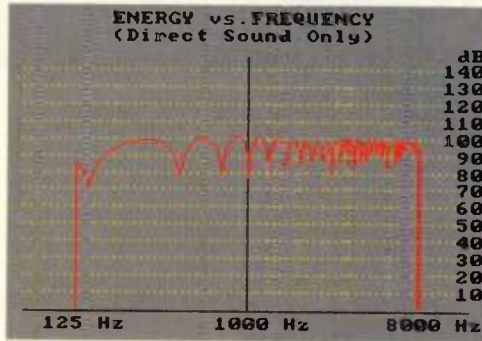

FIGURE 4: Under Balconies
interfering sound (see fig. 4); and (2) If the balcony is very deep, you may actually be in a different room (acoustically). Now, not only can't you differentiate the sound from the system from the sound bouncing off the walls and underbalcony ceiling, but you also can't get a sense of the overall contribution of the main part of the room to the qualities of the music. Some balconies overhang to the point of blocking the direct sound from the main loudspeakers, especially the central loudspeaker cluster in theaters. Question: Do you wanna mix this show or just babysit the buttons for a couple of hours?